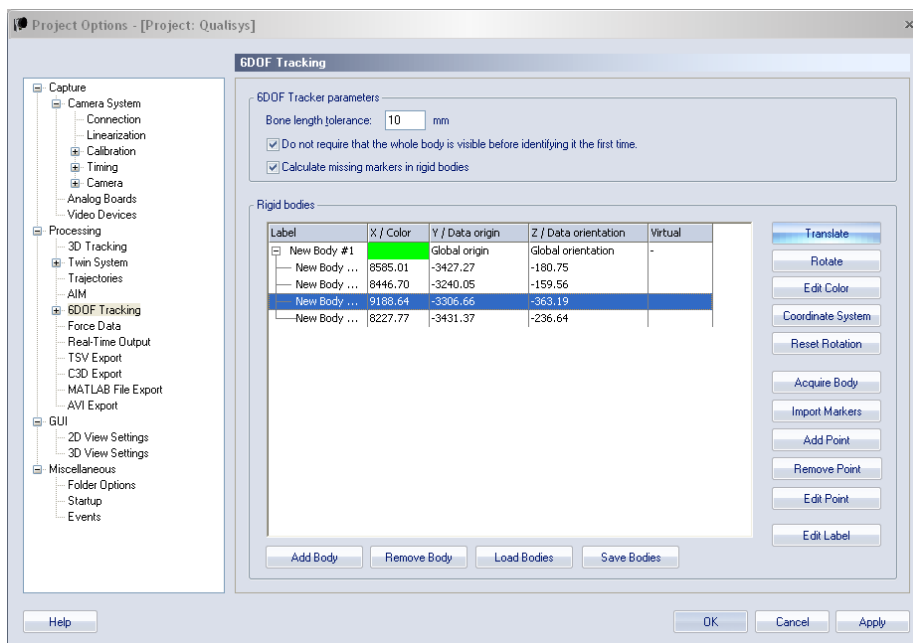

Figure 1.5: Qualisys Track Manager acquired body
3. Align the vessel with 0° heading (i.e. with the bow pointing towards the command center) and push “Acquire Body” to get the position of the reflectors. A list appears, as in Figure 1.5.
4. To redefine the body fixed coordinate frame, choose a reference reflector. As highlighted in Figure 1.5, it may be practical to choose the highest-most, in this case reflector 3. Push “Translate” and enter the coordinates of the chosen reflector in the desired frame. See the Handbook for the specific vessel for information of the position of this reflector in the body-frame.